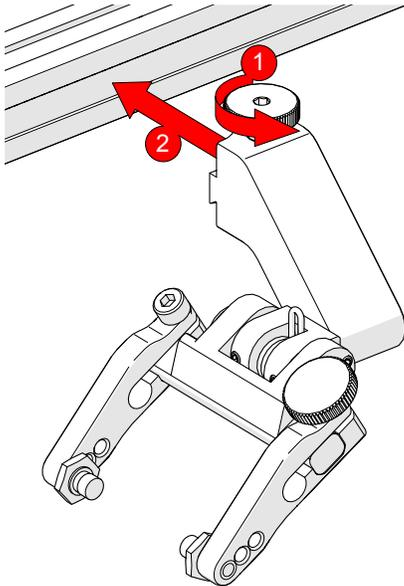

Fig. 34 - Attach to frame bar
1. Rotate the probe holder adjustment knob and attach the probe holder to a frame bar (Fig. 34).